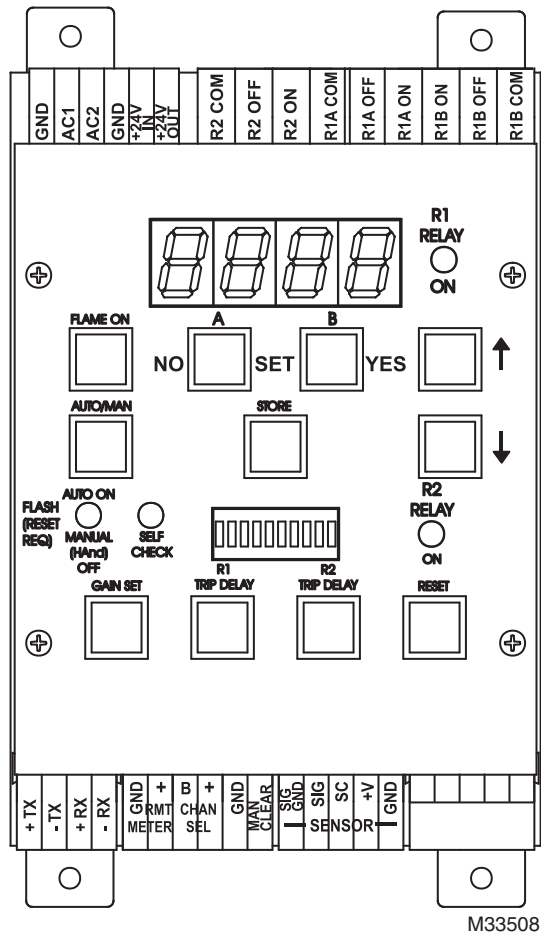

Fig. 1. Terminal labeling.
Refer to Fig. 1 on the following page, and proceed to wire the signal processor as follows:
2. The cable at the signal processor end should be prepared as shown in the wiring diagram Fig. 1, making sure that the shield does not touch the other adjacent terminals.